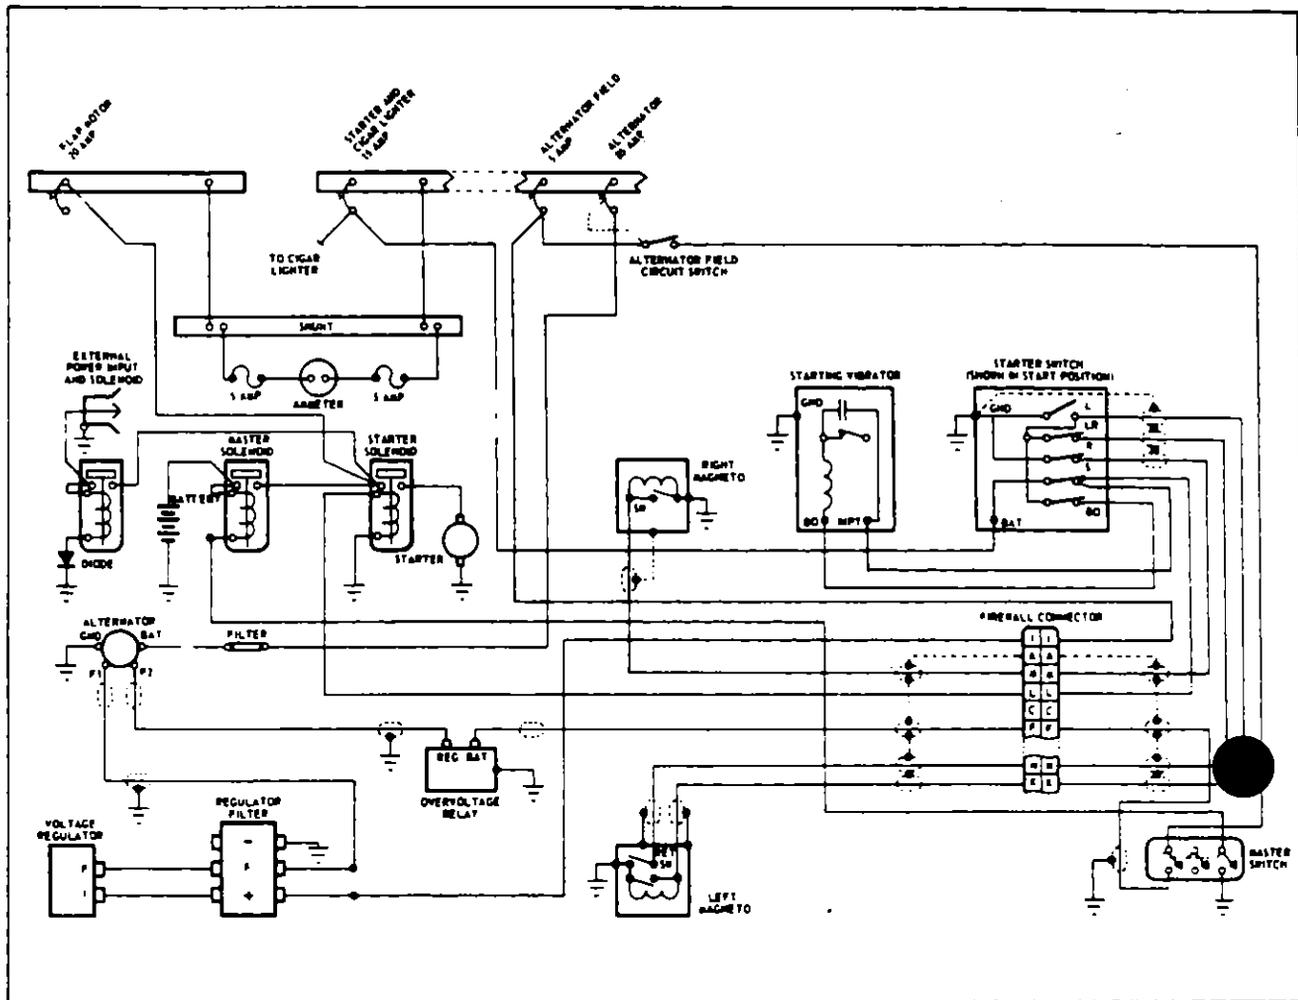

Figure 9-27b. Alternator and Starter Wiring System Schematic (Prestolite)
9-61c. **Checking Alternator System.** The ammeter is equipped to check the electrical output-input of the battery. Should the alternator show no output on the ammeter, check the alternator output and field thermo circuit protectors, and ammeter line fuses. If a further check of the ammeter shows no output from the alternator, check the alternator system. (Refer to Figure 9-27b.)
f. To check the alternator output circuit, connect a voltmeter or 12 volt test light to the battery lead and to ground. If a reading of approximately 12 volts registers on the voltmeter or the test light lights, the battery circuit is operational. Should there be no indication of voltage, trace back through the output circuit until voltage is indicated. (Refer to Figure 9-27b.) A component that allows no voltage to pass through it should be replaced.
Always refer to the wiring diagram, Figure 9-27b, when installing the alternator or testing the alternator.